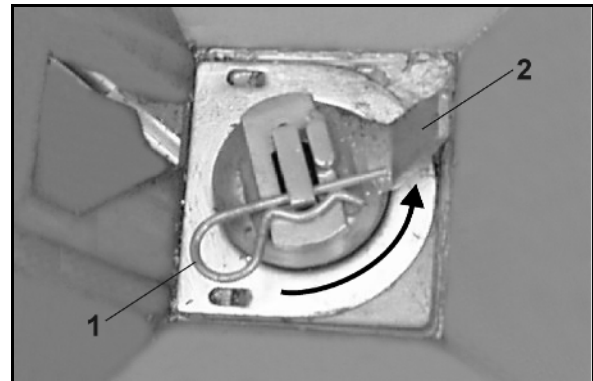

Fig. 89
3. Install the safety splint (Fig. 89/3), being absolutely certain to install it **opposite** to the direction of rotation (Fig. 89/4). (Pictured here is the right side of the machine as seen in the direction of rotation).